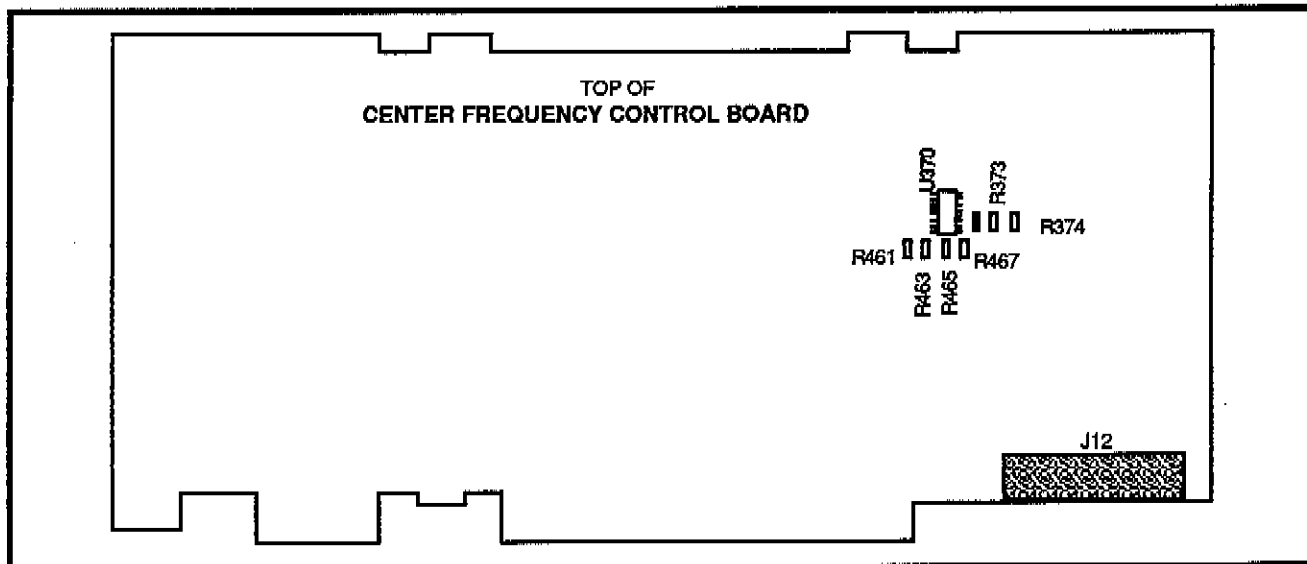

Figure 4-15. Reference frequency adjusting resistors.
f. Check that the Spectrum Analyzer counter reads 100 MHz ± 100 Hz. If necessary, readjust the digital frequency number on the Center Frequency board using the 1 k Ω resistors in Table 4-5. Removing a combination of these resistors raises the reference frequency by the equivalent amount (sum) according to Table 4-4. See Figure 4-15 for the location of the 1 k Ω resistors.